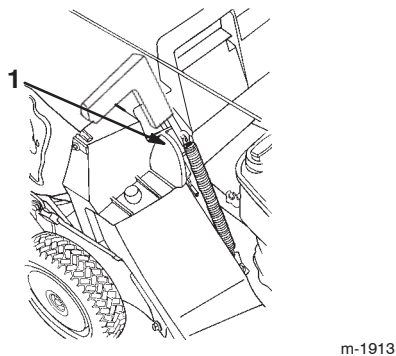

Figure 14
5. Pull the discharge door handle forward until the pin clears the catch, and move the handle rearward until the pin locks in the bag notch (Fig. 14).